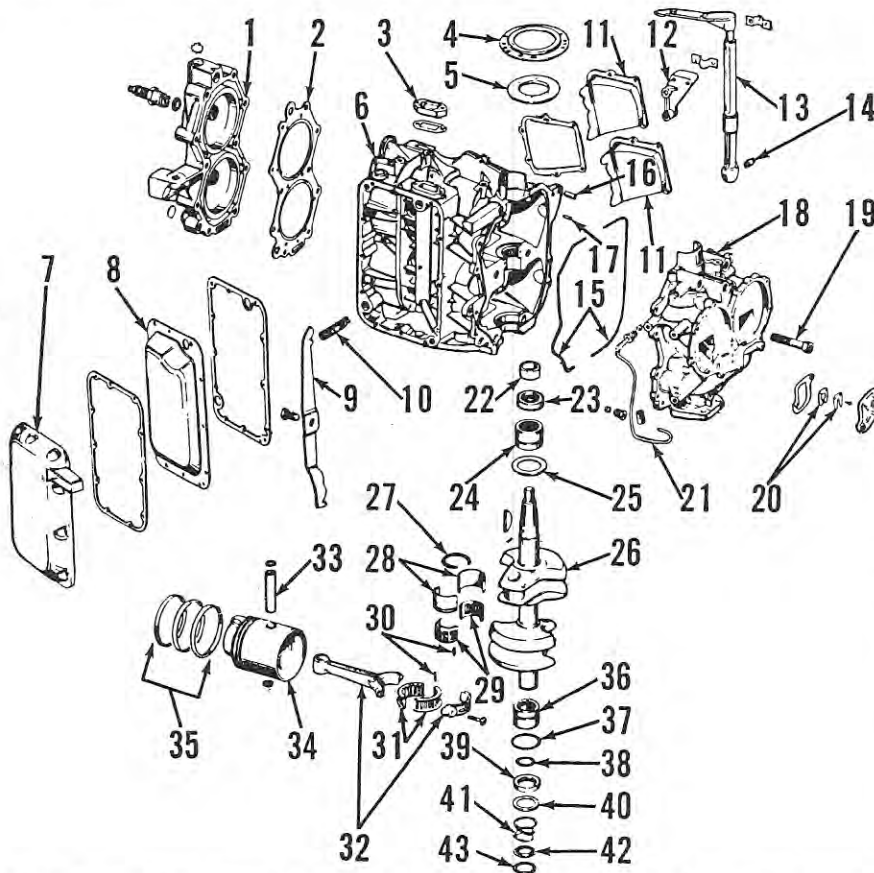

Fig. G61—Exploded view of late model 25 horsepower power head assembly. Early 22 and 25 horsepower models are similar.
piece of one-inch pipe. Bolt the flange to bench and screw pipe into flange. Insert the upper portion of an old drive shaft into pipe, with a few inches of upper end extending. Unbolt power head from lower unit and fit crankshaft over old driveshaft. Refer to Fig. G60 or Fig. G61 for an exploded view of the power head assembly.
Unbolt and remove the cylinder head (1). Remove the upper bearing oil line (15—Fig. G60 or 21—Fig. G61). Drive out the two tapered aligning pins (17—Fig. G60 or 16—Fig. G61) and remove the armature support (3—Fig. G60 or 4—Fig. G61); then unbolt and remove the crankcase front half. **NOTE:** Two of the retaining cap screws (14—Fig. G60 or 19—Fig. G61) are accessible through the intake ports as shown in Fig. G54. If crankcase half is stuck, tap it lightly with a soft hammer, **DO NOT** use a pry between the crankcase and cylinder assembly.
**Fig. G60—Exploded view of the power head used on 1955, 12 horsepower models. All other 12 horsepower models are similar. Fifteen horsepower models are similar except anti-friction bearings of the type shown in Fig. G61, are used on connecting rod and the two upper main bearings.**
When reassembling crankcase on models using sealing strips (15—Fig. G61), install strips in grooves of cylinder half and trim ends of strips to extend approximately 1/16-inch into bearing bores.